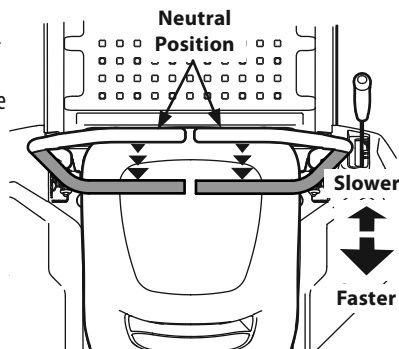

Figure 24
1. Slowly and evenly move both lapbar drive control levers rearward. The tractor will start to move in the reverse direction. See Figure 24.